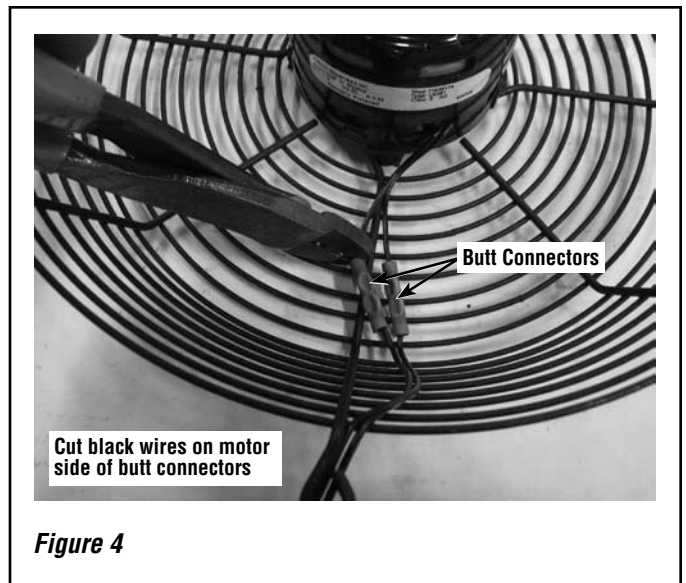

Figure 4
Step 6. Cut both butt connectors on the motor side. **Note: Cut at the connector being careful to not remove any more wire than is necessary.** See **Figures 4 and 5**.